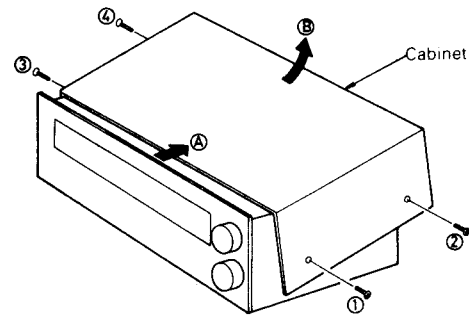

Fig. 2
2. Remove the four cabinet mounting screws (nos ①~④ screws in fig. 2).
3. Sliding it toward (A) direction and lifting it upward (B) direction as shown in fig. 2.